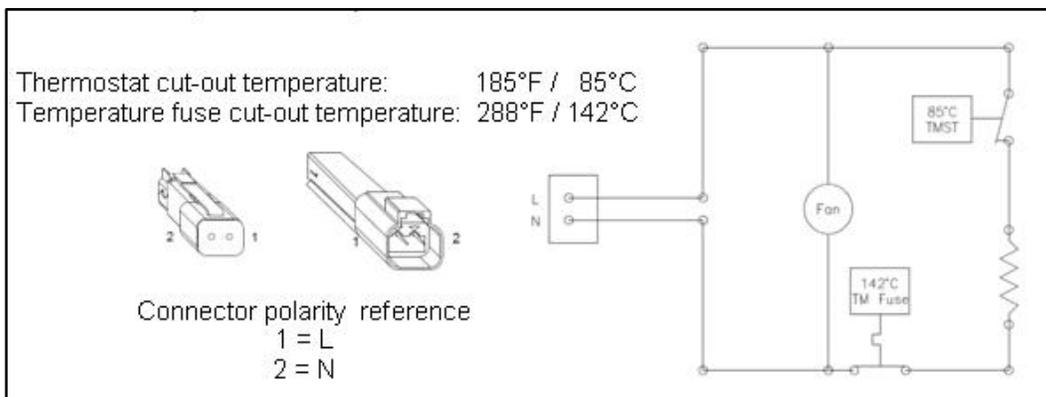

**Figure 7.2.** Ducting clearances: To avoid warm air standstill and overheating maintain minimum clearances or greater.
- c) Select location that allows adequate ducting clearances and airflow, refer to Figure 7.2.
**Figure 7.3.** Mounting orientations with ducting flow. To avoid warm air standstill, overheating of heater and/or items near outflow, maintain minimum clearances, 2-inches inlet and 6-inches outflow, or greater refer to Figure 7.2.